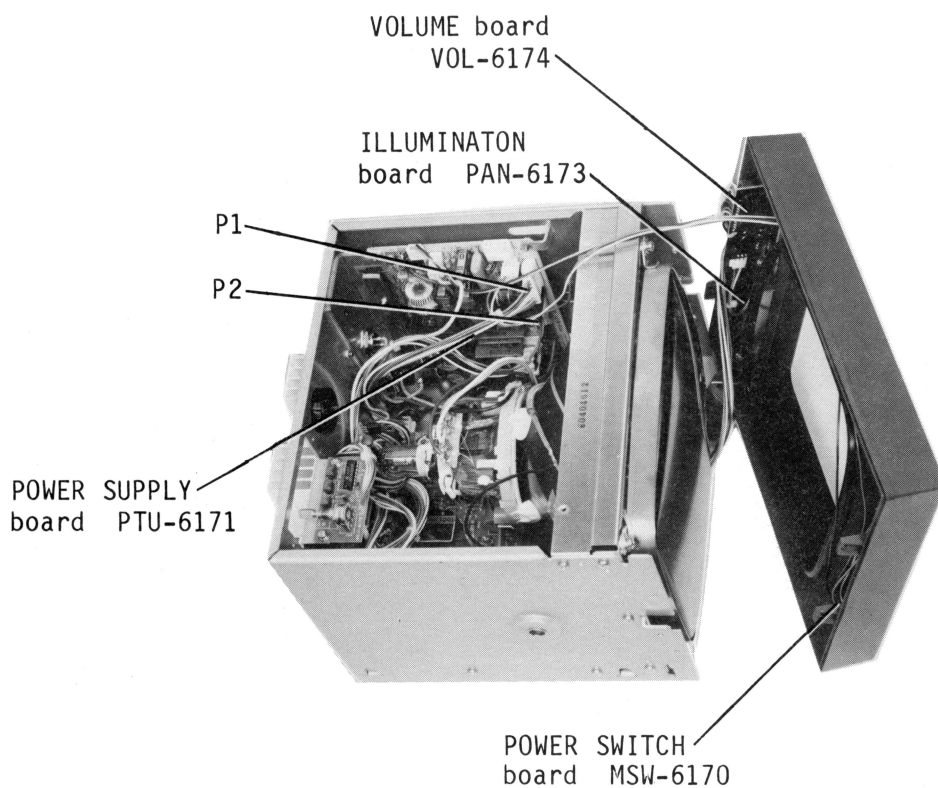

Fig.4-2 DISPLAY UNIT TOP VIEW (2)
- 2) If the fuse blows again, disconnect P1 (Fig.4-2) from the POWER SUPPLY board, insert a new fuse and turn on the radar again.
- 2) Check the power supply circuit for the motor. Measure the voltages at pins #1(-12V) and #2(+12V) of P/J2 on the POWER SUPPLY board. See Fig.4-2.